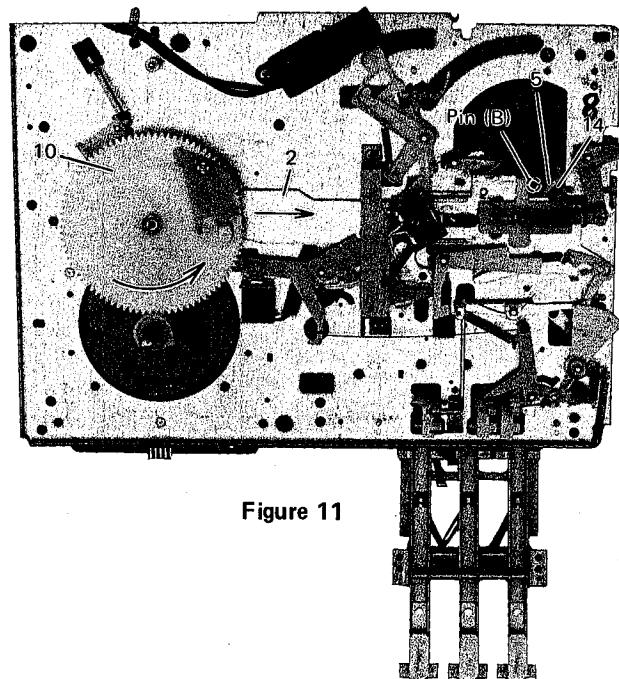

Figure 11
- (3) Rotation of Main Gear (10) slides Return Lever (2) to right. The lower hand of Lead-in Slider (14) scoops up Lead-in Click for Return Lever (5) at the right side of Pin (B). (Figure 11)